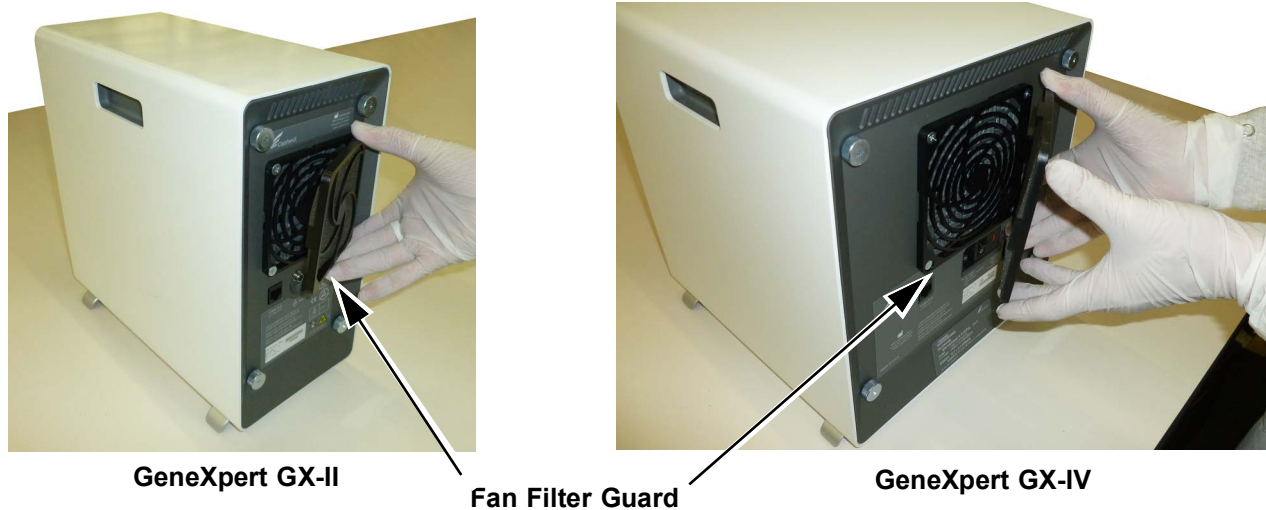

Figure 9-9. Retrait du protège-filtre du ventilateur
4. Gently take the fan filter guard off by unsnapping the guard from the fan housing (see Figure 9-9) and place it aside for the remainder of the procedure for filter removal and cleaning.